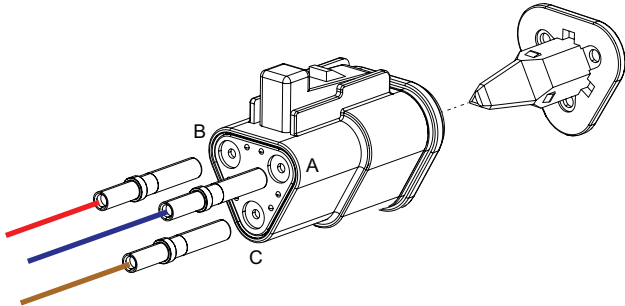

Figure 2
6. Crimp Deutsch terminals (0128782) on end of red, blue and brown harness wires, see Figure 2.
7. Insert blue wire into connector (2HB201) position A, see Figure 2.
8. Insert red wire into connector (2HB201) position B, see Figure 2.
9. Insert brown wire into connector (2HB201) position C, see Figure 2.
10. Insert wedge lock (1131489) into front of connector, see Figure 2.